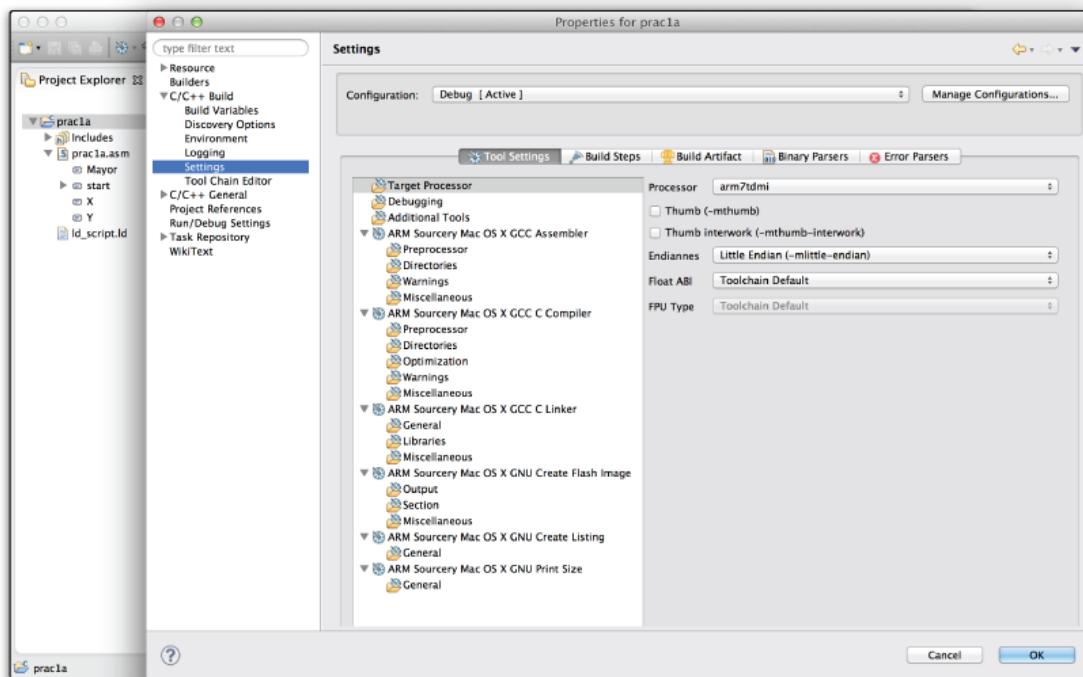

Figure 1.11 The properties window of the project
8. Finally we must configure the project to perform a successful compilation. To do this, we select the project in the left panel, click the right mouse button, and select the Properties entry at the bottom of the pull-down menu. This will open a window like the one shown in Figure 1.11. In this window, we must select C/C++ Build→ Settings and: